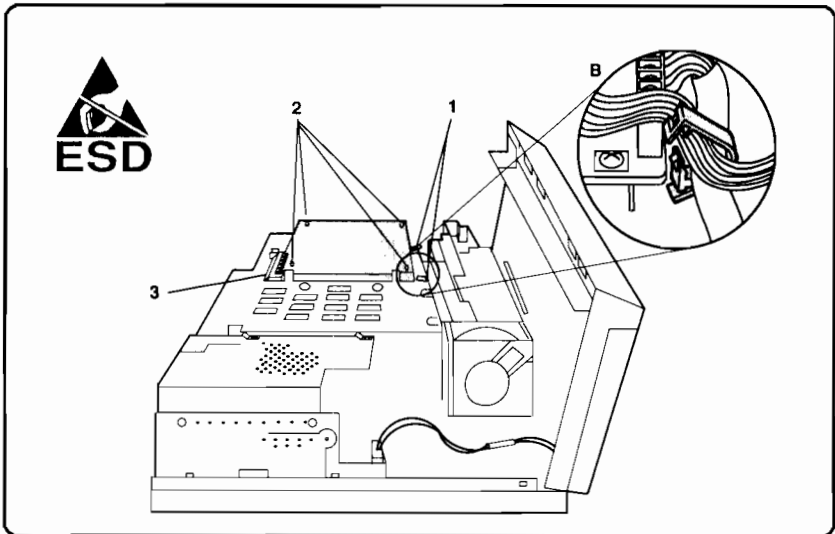

Figure 6-27. DC Controller PCA Removal
5. Unclamp the Cable Clamps (2) using a small flat-head screwdriver (see Figure 6-27, callout 1 and detail B).
6. Remove the washer-head screws (4) securing the DC Controller (see Figure 6-27, callout 2).
7. Remove the DC Controller PCA by lifting slightly and pivoting it out of its Positioning Bracket (see Figure 6-27, callout 3).
5. Remove all cables from the DC Controller PCA and from their retainers (clamps) on the Lower PCA Shield Assembly (see Figure 6-27).